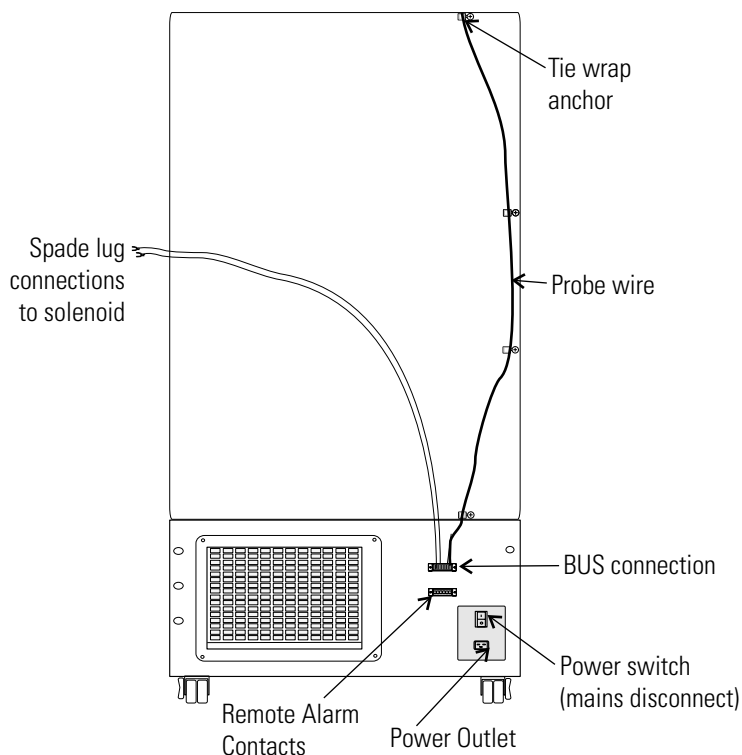

Figure 5-5. Probe wire and solenoid connections
1. Remove the four screws on the freezer back panel and use them to mount the tie wrap anchors as shown in Figure 5-5. Secure the probe wire with tie wraps.
4. Connect power to the freezer. Turn the freezer On, with battery switch Off (O).